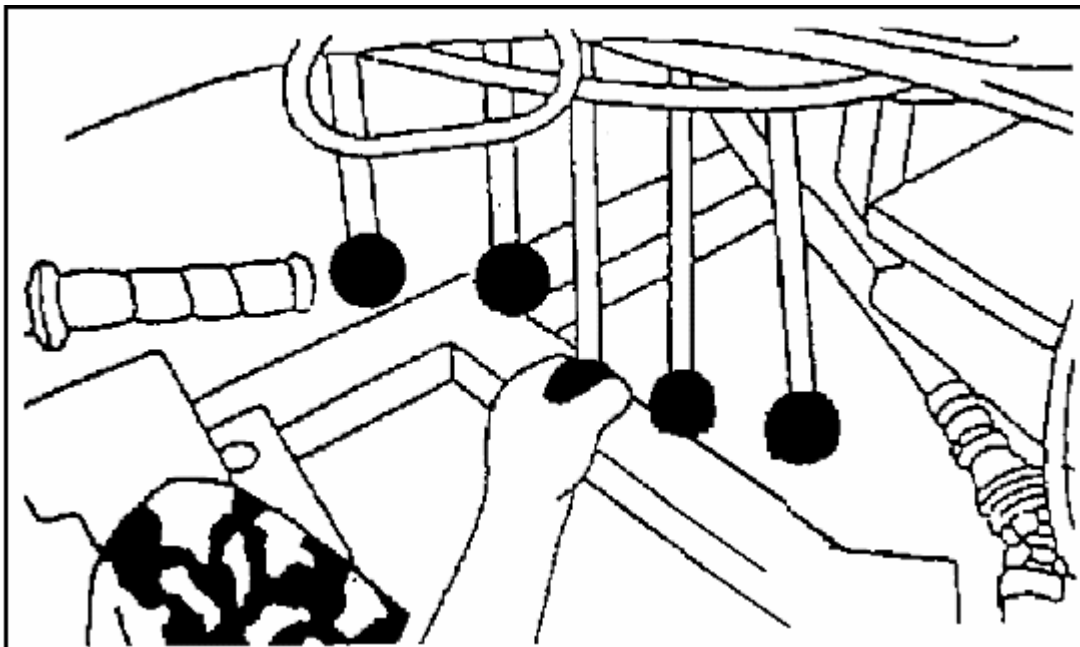

Figure 052-226-1013-5
- d. Pull up on the scissor-cylinder control lever until the cables are tight (Figure 052-226-1013-5).